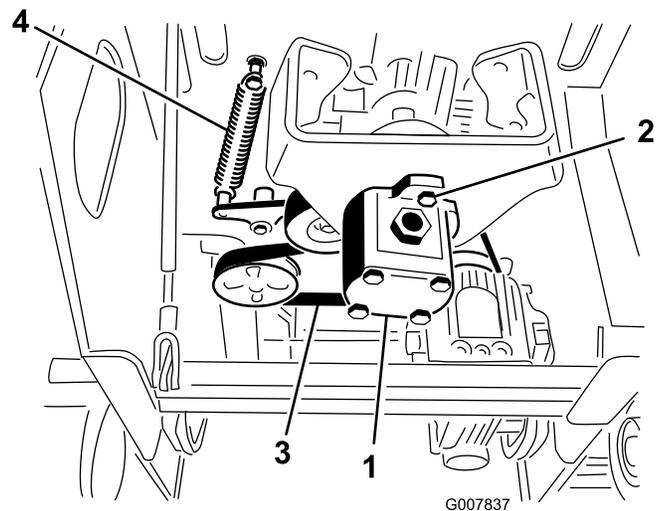

Figure 52
5. Loosen the two pump bolts (Figure 52).
6. Twist the pump counter clockwise and allow it to drop down away from the pulley (Figure 52). Ensure that the spider coupler drops down with the pump.
7. Using a spring puller (contact your Authorized Service Dealer) or stiff metal hook, pull the end of the idler pulley spring off of the spring bolt to release tension on the belt (Figure 52).